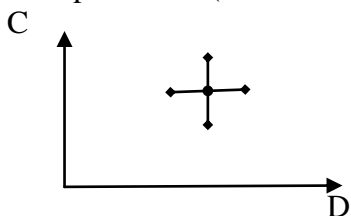

Fig.1 Presentation of an experimental result and associated uncertainty bars in a graph.
3. For each of the circular objects, measure the circumference "**C**" and record it as C_{best} [div] together with its **absolute uncertainty** " **$\Delta C = 0.5div$** " in data table. For this measurement, fit a piece of string around the object circumference, cut it and measure its length by using the *scaled paper tape*. Plot a **graph** $C = C(D)$ of the **circumference** versus **diameter** and label it as graph No.1. Put on horizontal axe the *D-values* , on vertical axe the *C-values* and select the same length for unit div on both axes. For each circle, use the D_{best} , C_{best} in table to get a point on the graph area. Use the length "**0.5div**" to draw the "*uncertainty bars*" (known as "*error bars*" see fig.1)). Use the method shown in "Brief survey on uncertainties" to **determine the slope** of this graph. Find what is the *significance* of the *slope* value. Write the result by presenting the absolute and relative uncertainty for slope values. (i.e. $Sl = Sl_{best} \pm \Delta Sl$; $\epsilon_{Sl}\% = (\Delta Sl / Sl_{best}) * 100\%$)